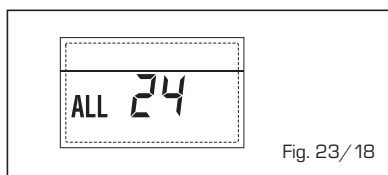

Fig. 23/18
– **ANOMALIA Sonda BOLLITORE SOLARE (S2) “ALL 25” (fig. 23/19)**